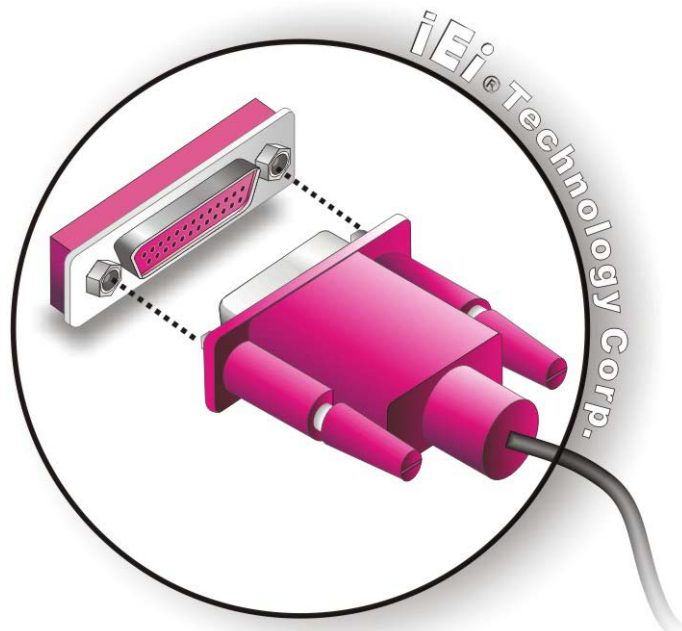

Figure 4-20: Parallel Device Connector
Step 2: Insert the DB-25 connector. Insert the DB-25 connector of a parallel device into the DB-25 connector on the external peripheral interface. See Figure 4-20.